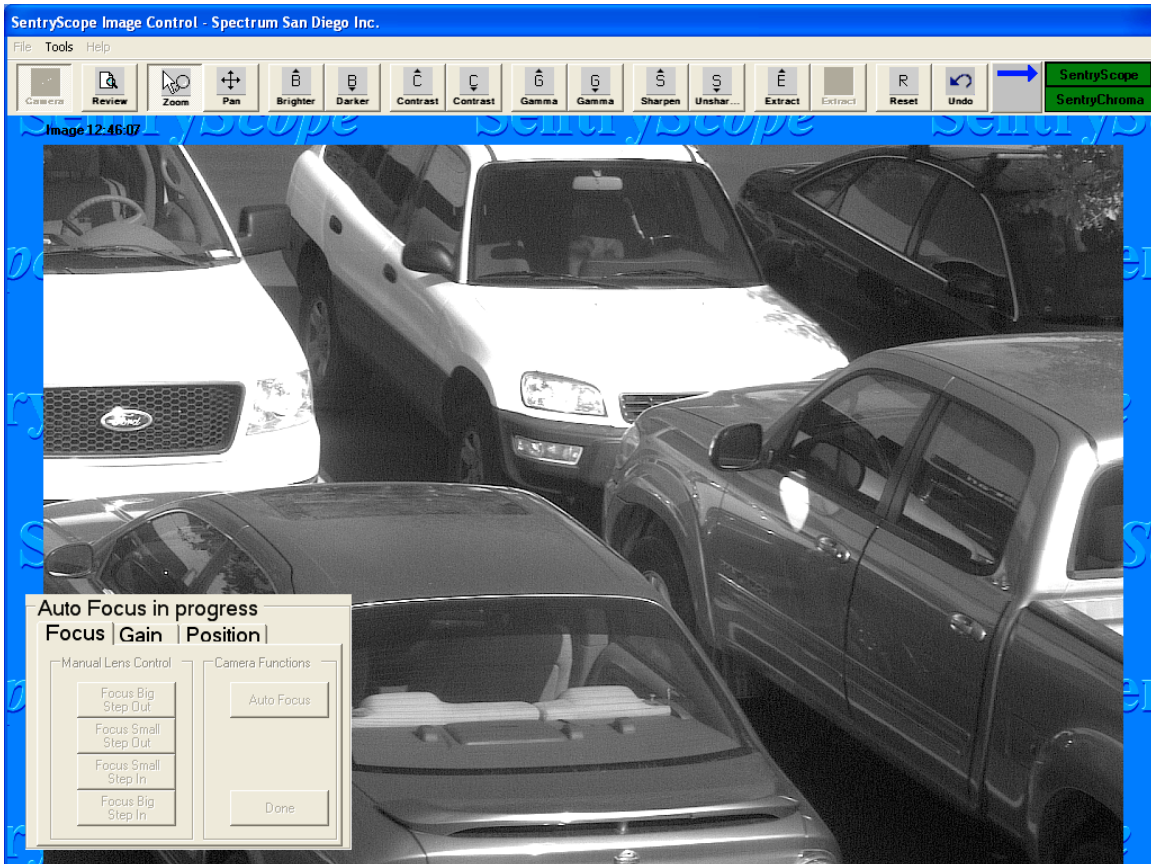

Figure 29
Click the “Auto Focus” button and SentryScope will automatically adjust to a 4X zoom level and focus around the center of the displayed image. This will take up to thirty (30) seconds during the day and up to one (1) minute at night. During this time a series of images will be displayed showing focus progress and a status message will be displayed as shown below in Figure 29: